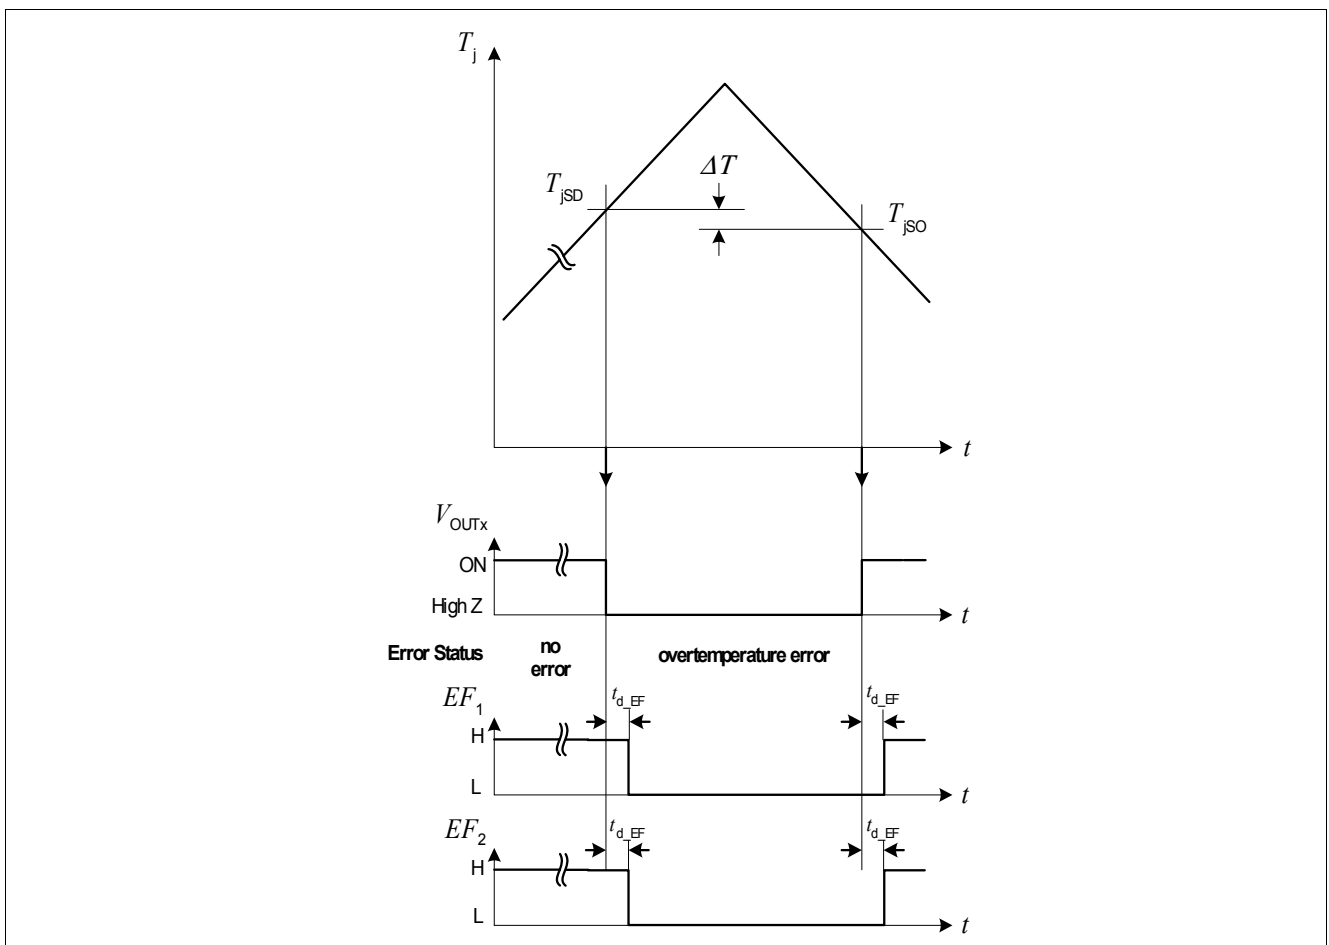

Figure 8 Overtemperature signalling
- b) **Over Temperature:** At a junction temperature higher than the thermal shutdown temperature  $T_{jSD}$  (typ. 175°C) the device enters thermal shutdown which turns-Off all four output stages simultaneously and the corresponding Error Flags are set with a delay. After cooling down to the thermal switch-on junction temp  $T_{jSO}$  the device will auto restart. A thermal toggle behavior can be observed (the Error Flags and output stages will be modulated by the thermal time constants; Figure 8).
Temperature sensors are integrated in the power stages. Each half bridge (HS+LS) is equipped with one temperature sensor. The temperature monitoring circuit compares the measured temperature to the shutdown thresholds. If one or more temperature sensors reach the shutdown temperature  $T_{jSD}$ , the overtemperature Error Flag is set to LOW. This Error Flag is not latched (i.e. if the temperature falls below the switch on threshold  $T_{jSO}$ , the Error Flag is automatically reset to HIGH again). This is shown in Figure 8 below.